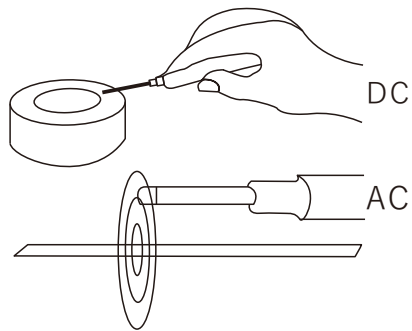

图 1-1
2. The diagram and description of the magnetic field measured by the handheld sensor are shown in FIG. 1-1. Use the end of the hall element at the front end of the sensor to lightly touch the surface of the magnet being measured or the position of the spatial magnetic field being measured at a position of 2.3mm. (**Note:** the non-graduated side of the probe is attached to the measured object, while the metal probe is attached to the non-polka-dot side)